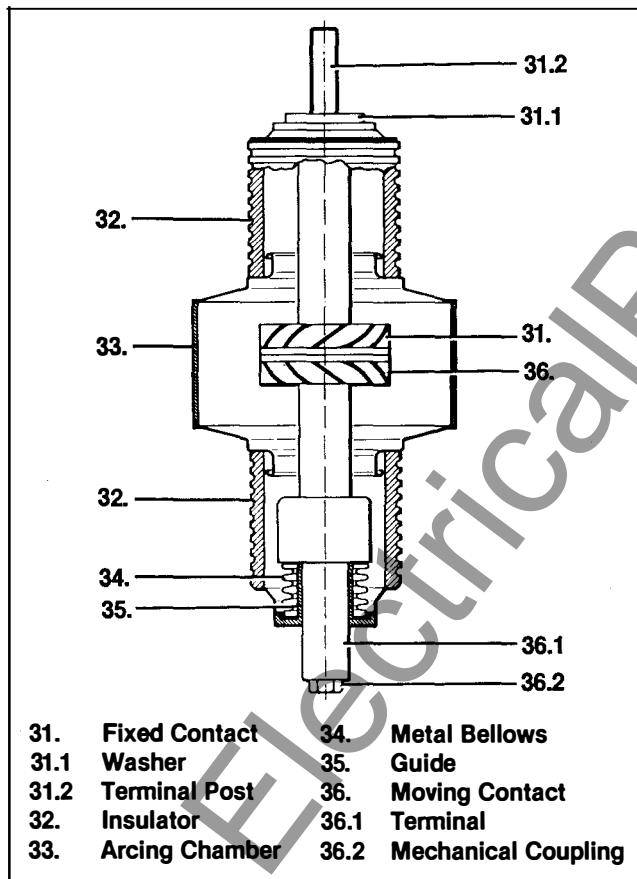

Figure 2. Section through a Vacuum Interrupter
The basic construction of the interrupter can be seen from Figure 2. The moving contact 36 moves in guide 35. The metal bellows 34 follows the travel of the moving contact and seals the interrupter against the surrounding atmosphere.
The current flows from the upper terminal 27 through the fixed contact terminal washer (Figure 2 items 31.1), contact (Figure 2 item 31) the movable contact (Figure 2 item 36) the movable contact terminal post (Figure 2 item 36.1), which is connected with the lower terminal 29 through the terminal clamp 29.2, and flexible strap 29.1.
The vacuum interrupter becomes open by the movable contact (Figure 2 item 36) moving in guide (Figure 2 item 36.2). The metal bellows (Figure 2 item 34) follows the movement of the moving contact and seals the interrupter against the surrounding atmosphere.